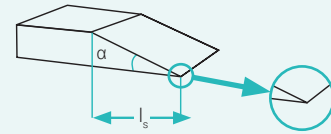

Figure 3
- Unwind around 0,5 m of the sealing tape and cut the end with a sharp knife by using the skive cut technique → length of the skive cut ( $l_s$ ) = approx. 25 mm, angle  $\alpha < 15^\circ$  (figure 3).